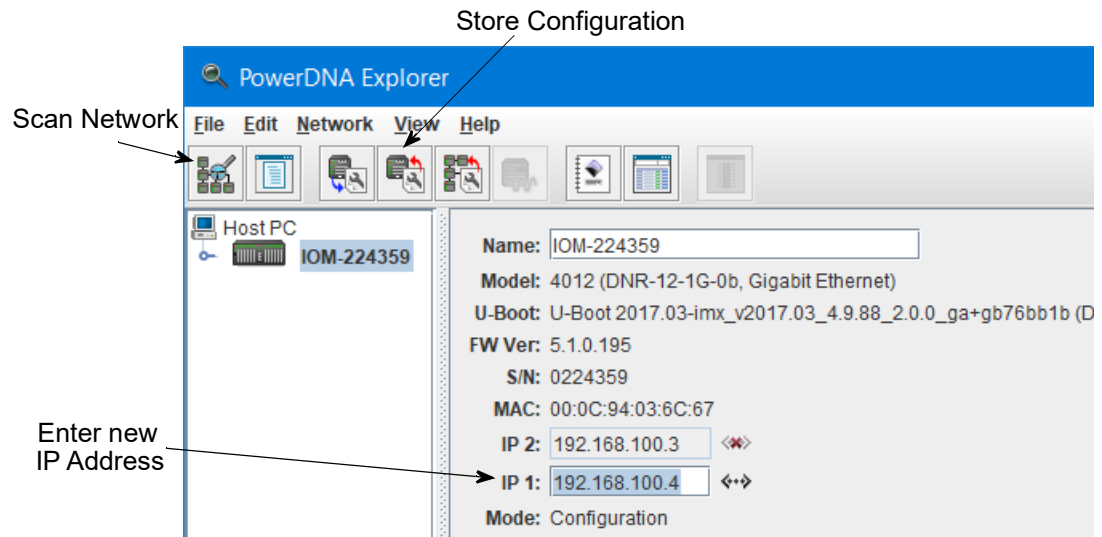

Figure 4-4. Using PowerDNA Explorer to Change IP Address
STEP 4: In the PowerDNA Explorer toolbar, click **Scan Network** (see **Figure 4-4**). A device name, IOM-#### (where #### is the Cube/Rack serial number), will appear.